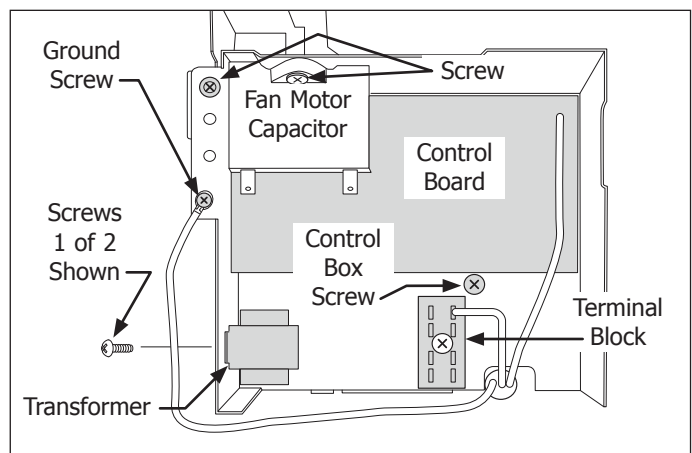

Figure 4-62.
8. Extract ground screw securing green wire to the rear of the control box. (See Figure 4-62)
10. Extract screw securing fan motor capacitor to right side wall of control box. (See Figure 4-62)
12. Extract screw securing terminal block to bottom of control box. (See Figure 4-62)
14. From rear of control box, extract the screws securing transformer to control box. (See Figure 4-62)
5. Extract the screw from the floor of the control box securing the assembly to the unit frame. Extract the screw from the top right corner and the screw from the lower left rear corner. (See Figure 4-62)